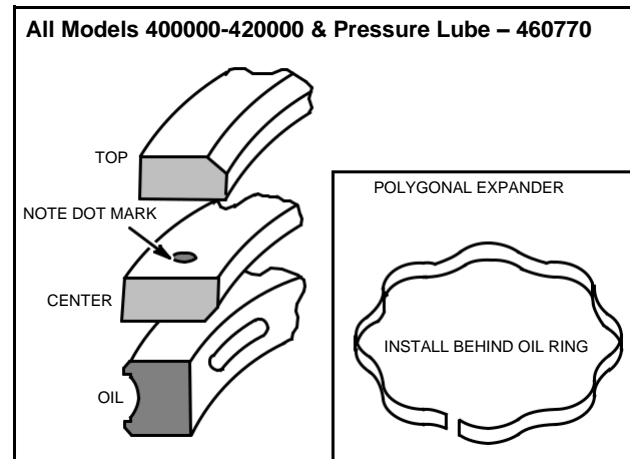

Fig. 11 – Piston Ring Installation
**IMPORTANT:** All Models 400000, 420000 and pressure lube Model 460770 are equipped with an oil ring and polygonal expander as shown in Fig.11. Install expander and oil ring first. The second compression ring has a dot mark which must face the top of piston. Install center ring, then, top ring.